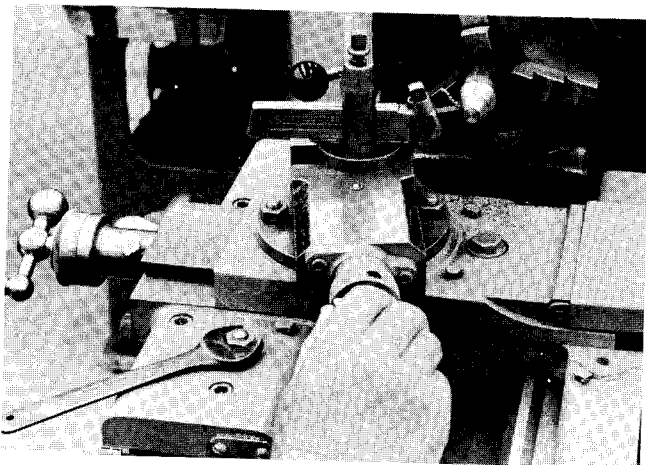

Figure 54-15 Cutting a short taper using a compound rest.
9. Rough turn the taper by feeding the cutting tool using the *compound rest feed handle* (Fig. 54-15).